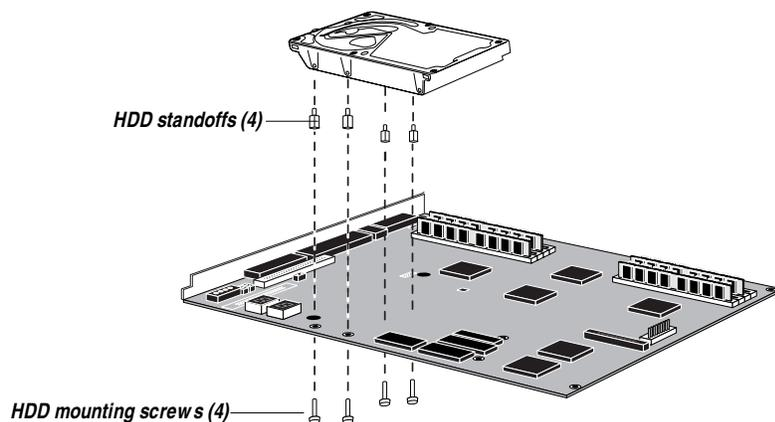

Figure 7-4 Installing the HDD
6. Supporting the HDD against the Fiery XJ80e, align the four holes in the HDD with the holes in the board and secure it to the Fiery XJ80e board with the four screws (see Figure 7-4).